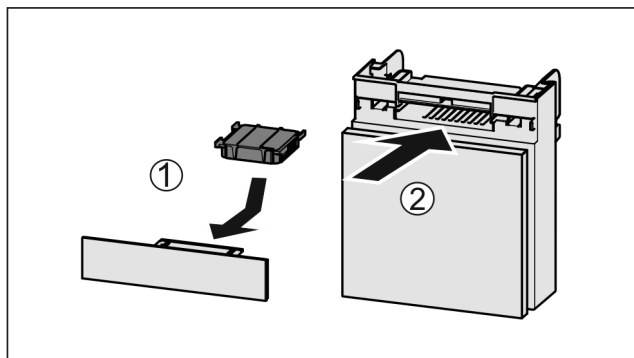

Fig. 49
- Insert the carbon filter as shown in the diagram Fig. 49 (1).
- Push the compartment in Fig. 49 (2).